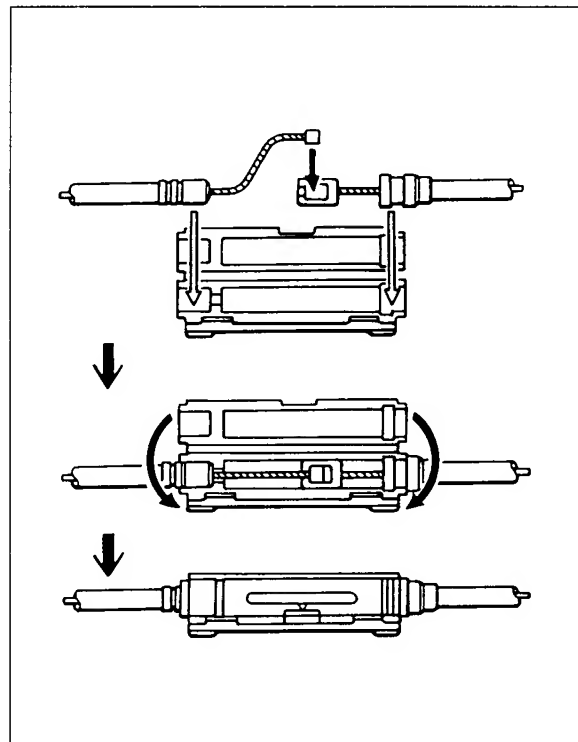

Fig. 2
1) Connect the throttle wire as shown in Fig. 2 and firmly close the cable joint. (Fig. 2)